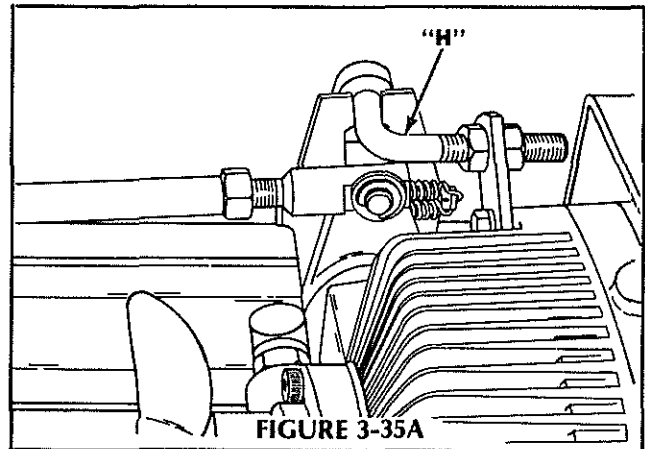

FIGURE 3-35A
Block up rear wheels. Restart engine; press pedal forward reverse, then back to Neutral. If wheels continue to creep forward when in neutral, shorten adjusting rod (H) Fig. 3-35A until wheels stop. Lengthen adjusting rod if wheels creep backward.